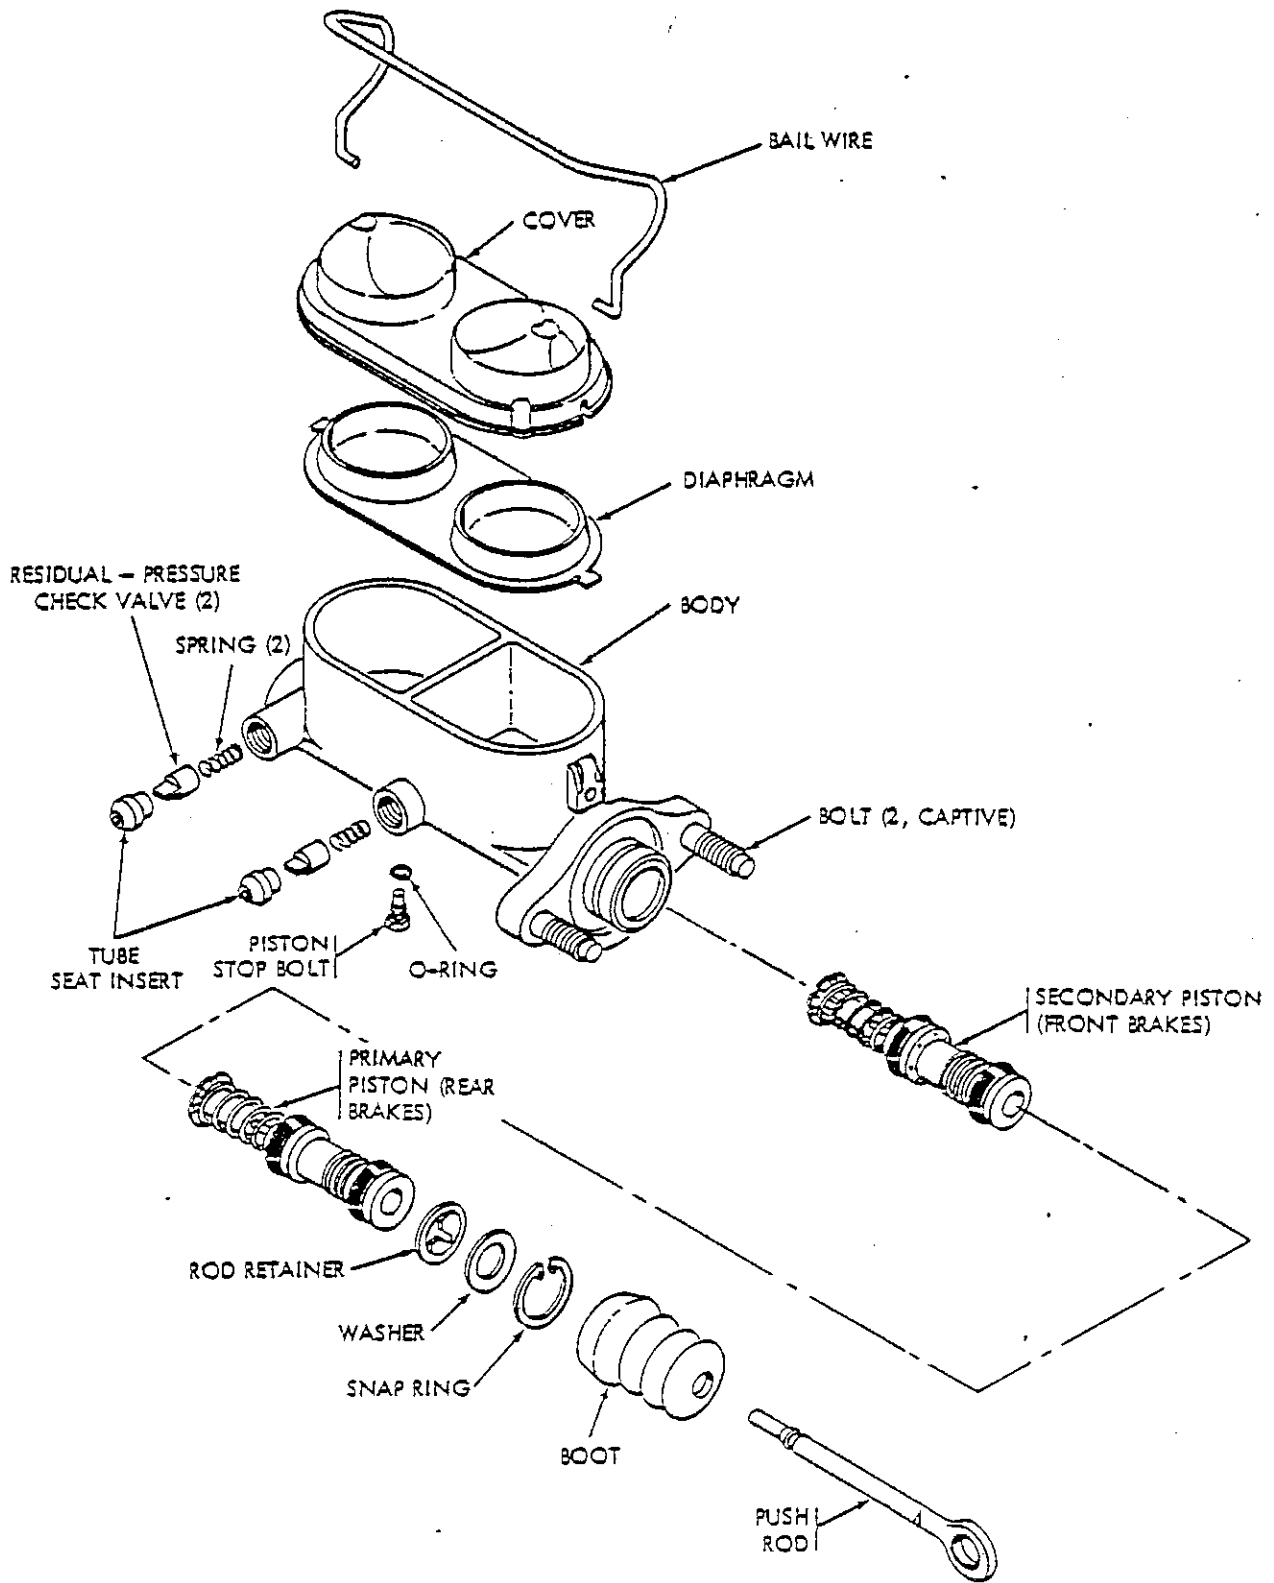

Figure 9-2. Master Cylinder
c. Master Cylinder (fig. 9-2). The master cylinder is mounted forward of the brake pedal and lever assembly on the forward coach panel. A push rod attaches to the master cylinder piston and is connected by a clevis pin to the pedal and lever assembly on the opposite end. The master cylinder contains two individual fluid reservoirs, one for the front and one for the rear systems. A cover and an expansion diaphragm are held in place on top of the reservoir by a detachable wire bail snapped into the grooves on the cover top.